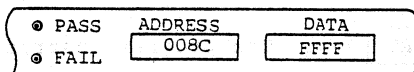

Fig. 8
- (12) Press the  key. The panel display gives the indication shown in Figures 8.